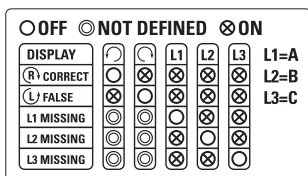

Figure 1
5. Refer to Figure 1 (Shown on the back of the Meter) for more information.